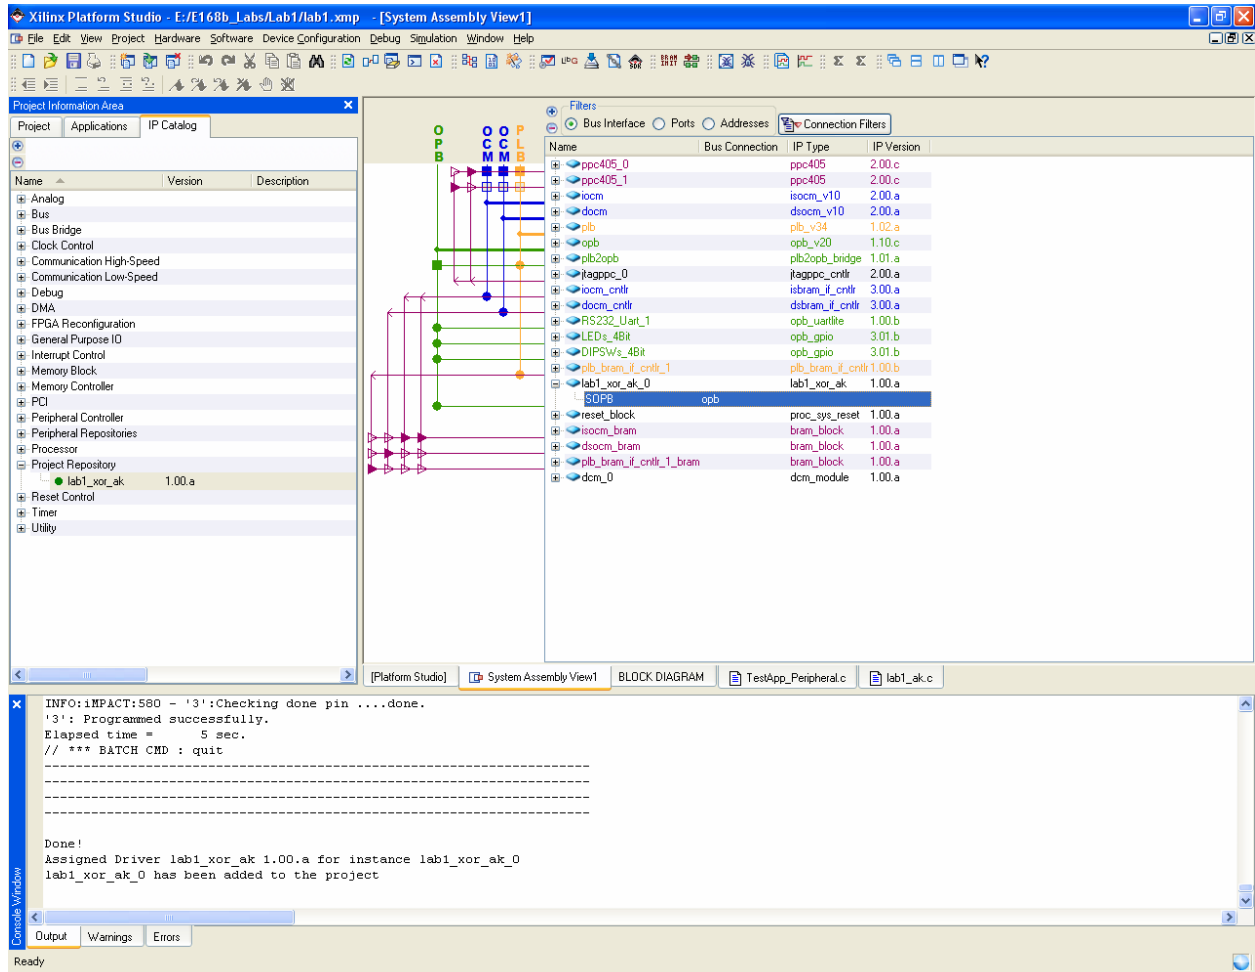

Figure 2: Adding the lab_xor_xx peripheral
- Now on the window on the right hand side, open the ‘System Assembly View1’ tab. (Refer to Figure 2). Expand ‘lab1_xor_xx_0’. Change the ‘No Connection’ for the SOPB to ‘opb’ to hook your new peripheral up to the On-chip Peripheral Bus.